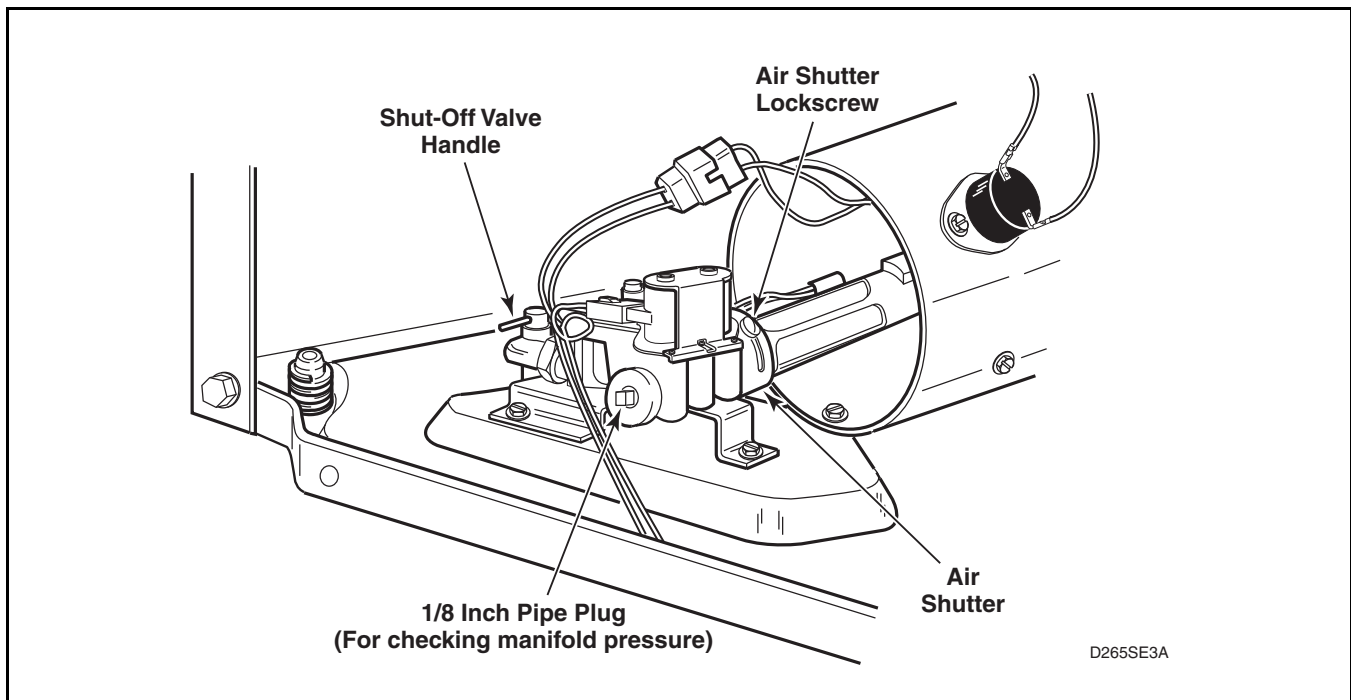

Figure 19
- Allow the dryer to operate for approximately five minutes, then loosen the air shutter lockscrew. Refer to *Figure 19*.
- After proper flame is obtained, tighten air shutter lockscrew firmly. Refer to *Figure 19*.